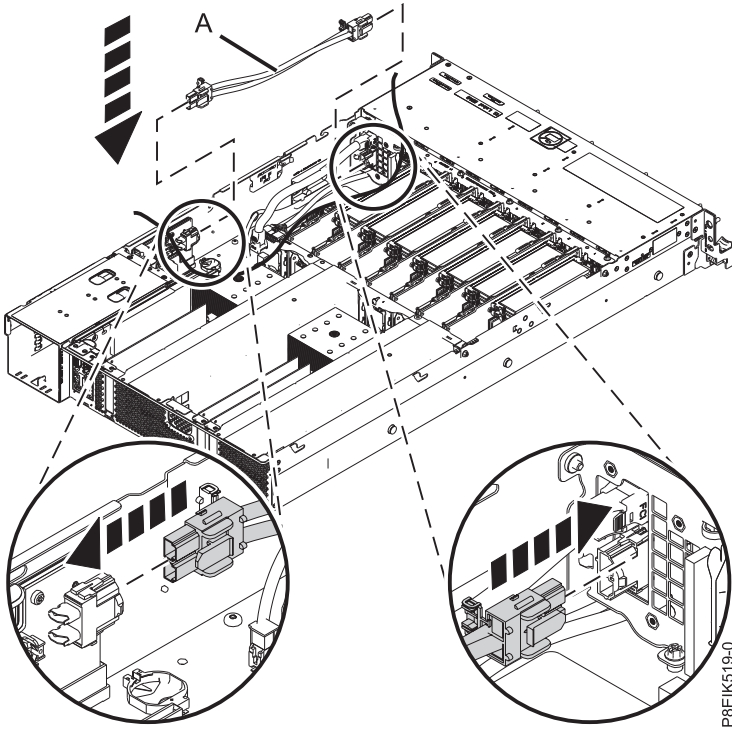

Figure 62. Installing the fan power cable
2. Route the fan power cable (A) connector end through the opening and connect it to the power riser as shown in Figure 62 on page 52. Ensure that the cable latch clip snaps into place on the connectors.
3. Connect the other end of the fan power cable into the disk drive and fan card as shown in Figure 62 on page 52.